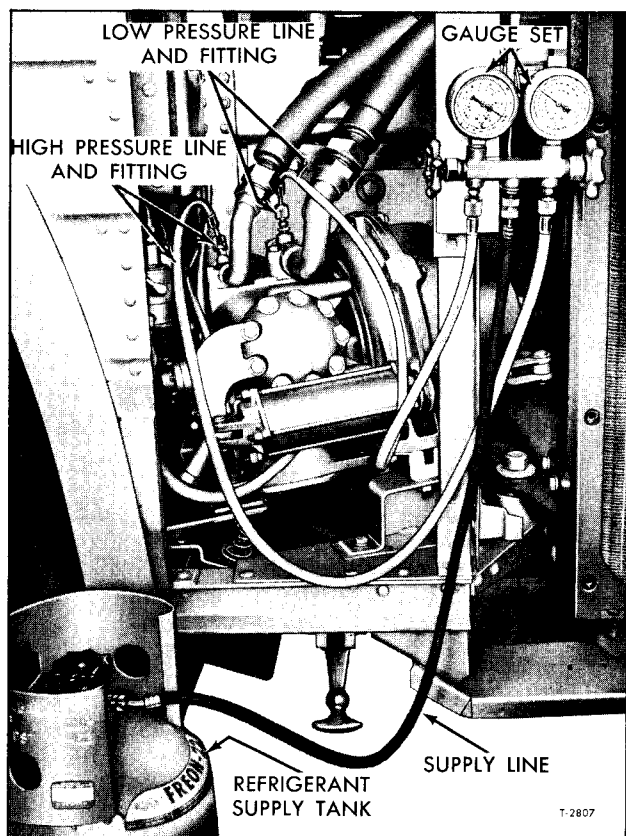

Figure 76—Charging Refrigerant System
1. Refer to figure 76, which shows lines and gauge set properly installed. Install gauge set to test gauge fittings as shown.
1. Install refrigerant gauge set to test gauge fittings (fig. 76). Make sure gauge valves are closed.
1. Connect gauge set to test gauge fitting as shown in figure 76.